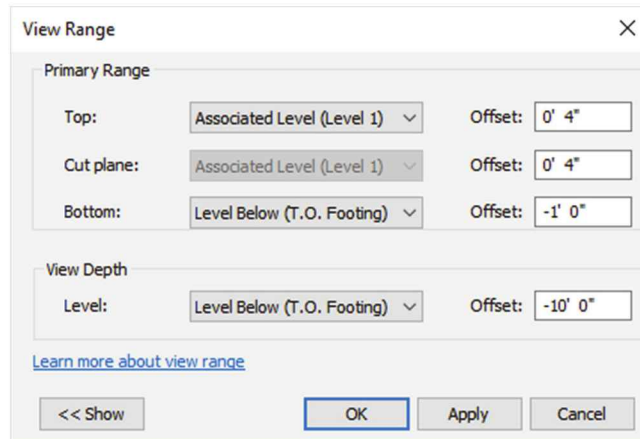

FIGURE 8-5.10 View Range settings
44. Change the *Bottom* setting to **-1'-0"** and then change the *View Depth* to **-10'-0"** (see Figure 8-5.10).